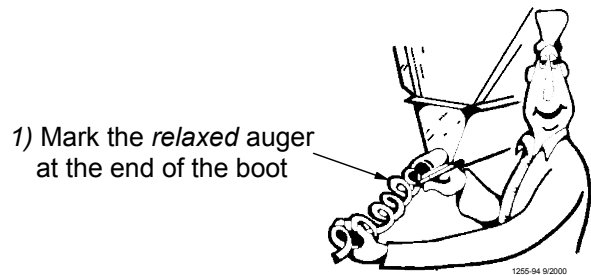

Figure 50. Measure the Auger from the relaxed position
10. Pull the auger at the boot end until it begins stretching. Then let it relax. In the *relaxed* position, mark the auger at the end of the boot. See **Figure 50**.